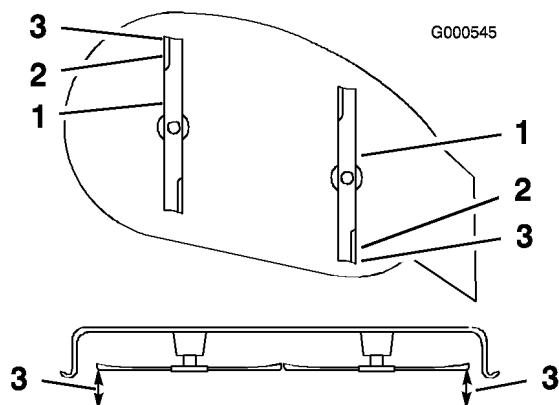

Figure 45
9. Set the height-of-cut at position **D** [3 inch (76 mm)] and carefully rotate the blades so they are facing front to rear (Figure 45).
10. Measure from the tip of the front blade to the flat surface and the tip of the rear blade to the flat surface (Figure 45). If the front blade tip is not 1/16-5/16 inch (1.6-7.9 mm) lower than the rear blade tip, adjust the front locknuts.